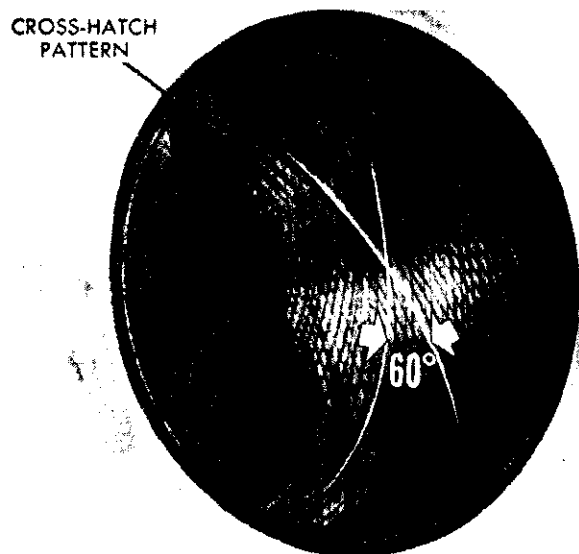

Fig. 35—Cross Hatch Pattern
(2) Deglazing of the cylinder walls may be done using a cylinder surfacing hone, Tool C-3501, equipped with 280 grit stones (3501-3810) if the cylinder bore is straight and round. 20 to 60 strokes depending on the bore condition will be sufficient to provide a satisfactory surface. Inspect cylinder walls after each 20 strokes. Use honing oil C-3501-3880 or a light honing oil available from major oil distributors. **Do not use engine or transmission oil, mineral oil or kerosene.**
(3) Honing should be done by moving the hone up and down fast enough to get a cross-hatch pattern. When hone marks intersect at 60° , cross hatch angle is most satisfactory for proper seating of rings (See Fig. 35).
(4) After honing, it is necessary that the block be cleaned again to remove all traces of abrasives. Wash cylinder block and crankshaft thoroughly.